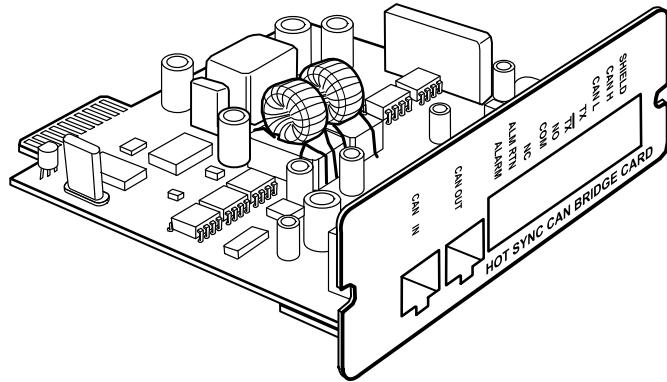

Figure 59. Powerware Hot Sync CAN Bridge Card
4. Unpack the Powerware Hot Sync CAN Bridge Card and verify that the card was not damaged during shipment (see Figure 59).